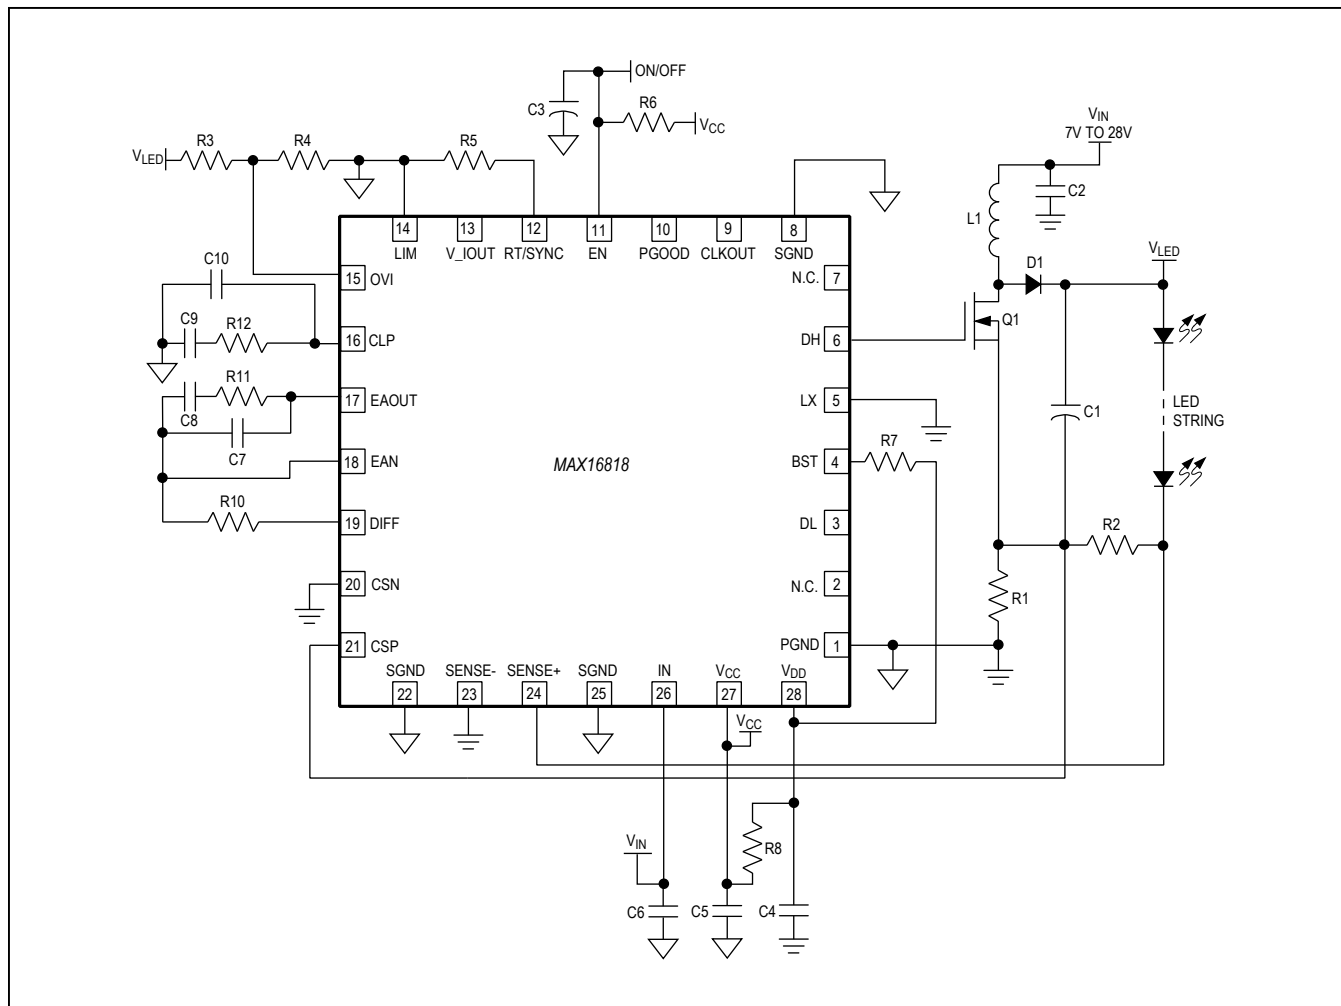

Figure 1. Typical Application Circuit for a Boost LED Driver (Nonsynchronous)
The high-side (DH) and low-side (DL) drivers drive the gates of external n-channel MOSFETs (Figures 1–5). The drivers' 4A peak sink- and source-current capability provides ample drive for the fast rise and fall times of the switching MOSFETs. Faster rise and fall times result in reduced cross-conduction losses. Due to physical realities, extremely low gate charges and $R_{DS(ON)}$ resistance of MOSFETs are typically exclusive of each other. MOSFETs with very low $R_{DS(ON)}$ will have a higher gate charge and vice versa. Choosing the high-side MOSFET (Q1) becomes a trade-off between these two attributes. Applications where the input voltage is much higher than the output voltage result in a low duty cycle where conduction losses are less important than switching losses. In this case, choose a MOSFET with very low gate charge and a moderate $R_{DS(ON)}$. Conversely, for applications where the output voltage is near the input voltage resulting in duty cycles much greater than 50%, the $R_{DS(ON)}$ losses become at least equal, or even more important than the switching losses. In this case, choose a MOSFET with very low $R_{DS(ON)}$ and moderate gate charge. Finally, for the applications where the duty cycle is near 50%, the two loss components are nearly equal, and a balanced MOSFET with moderate gate charge and $R_{DS(ON)}$ work best.
This section provides some detail regarding the application circuits in the *Simplified Diagram* and Figures 1–5. The discussion includes some description of the topology as well as basic attributes.
In Figure 1, the external components configure the MAX16818 as a boost converter. The circuit applies the input voltage to the inductor during the on-time, and then during the off-time the inductor, which is in series with the input capacitor, charges the output capacitor. Because of the series connection between the input voltage and the inductor, the output voltage can never go lower than the input voltage. The design is nonsynchronous, and since the current-sense resistor connects to ground, the power supply can go to any output voltage (above the input) as long as the components are rated appropriately. R2 again provides the sense voltage the MAX16818 uses to regulate the LED current.
The circuit in Figure 2 shows a step-up/step-down regulator. It is similar to the boost converter in Figure 1 in that the inductor is connected to the input and the MOSFET is essentially connected to ground. However, rather than going from the output to ground, the LEDs span from the
output to the input. This effectively removes the boost-only restriction of the regulator in Figure 1, allowing the voltage across the LEDs to be greater than or less than the input voltage. LED current sensing is not ground-referenced, so a high-side current-sense amplifier is used to measure current.